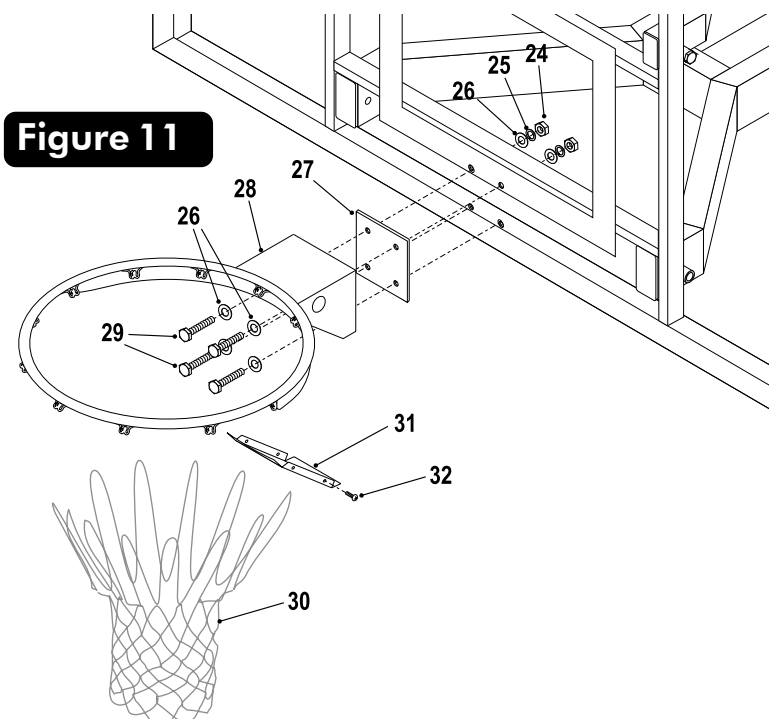

Figure 11
- 16. Remove protective backboard covering and mount Goal Assembly (#28) and Rim Pad (#27) to Backboard, as shown in Figure 11, using four bolts (#29), eight washers (#26), four lockwashers (#25) and four nuts (#24). Tighten fasteners finger tight, leave them loose enough to level rim.
- 18. Attach Rim Cover Plate (#31) using four screws (#32). See Figure 11.